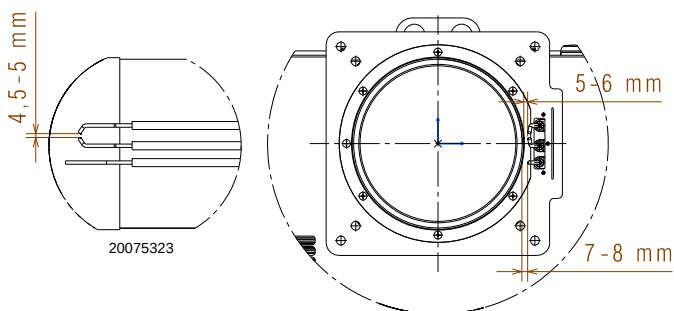

Fig. 14
Make sure the probe and electrodes are correctly positioned as in Fig. 14.
- Put back the cover 10) and secure it with the screws 11); connect the high voltage cables to the transformer 23), and the ionisation probe lead to the appropriate cable emerging from the control box. Before fixing the burner to the boiler, make sure the probe and electrodes are positioned correctly as in Fig. 14. Secure the ramp unit 20 to the mixer 18.